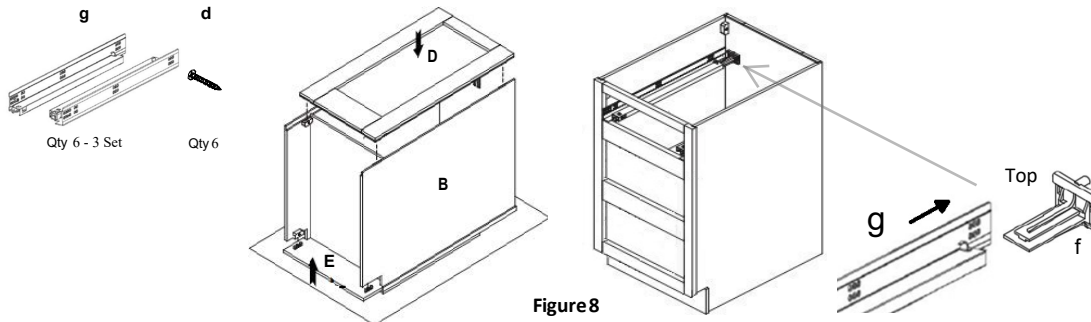

Figure 8
5. Install the Drawer Slide Rails: Insert the drawer side rail's back end (g) into the holder (f) previously installed (Step 4) on the back panel (D) (Figure 8). Then secure the drawer rail front end with 1/2" screws (d) using the pre-drilled holes in the face frame (A).